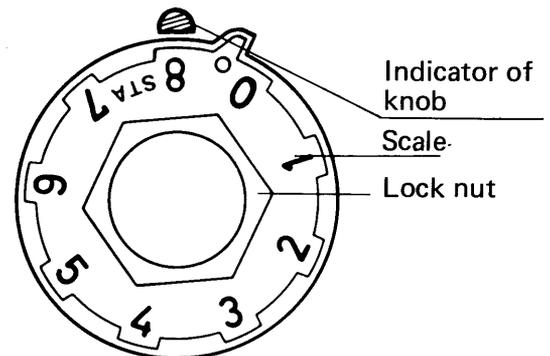

Fig. 1
1. Close the valve fully (Fig. 1).